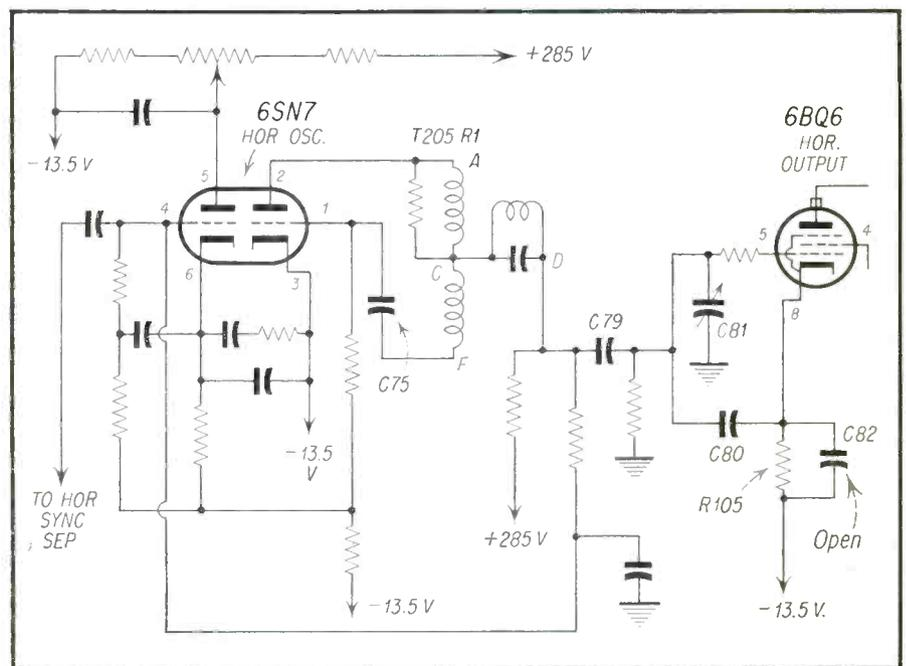

Fig. 1—Partial schematic of Kent "7" Series.
The receiver was turned on and it was immediately seen that the picture was far out of horizontal frequency range. The horizontal oscillator slug was first adjusted and although this had some effect, the picture still remained far out of horizontal frequency. The horizontal hold also had effect, but did not aid the situation to any great degree. The 6SN7 horizontal oscillator was next replaced but had no effect. See Fig. 1.
**T**HE new Simpson Model 434 White-Dot (Varidot) Generator, provides some interesting operating facilities. As shown in Fig. 1, which illustrates the external appearance of the instrument, controls are provided for varying the number of dots horizontally and vertically in the pattern, and also for varying the size of the dots. In addition, a hum check is provided, as will be explained.